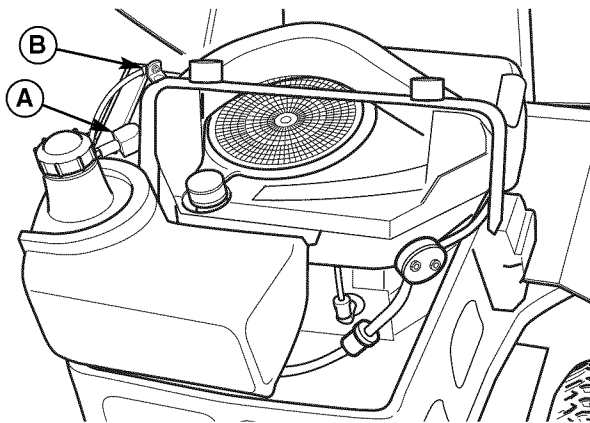

Figure 26. Engine Compartment
1. Disconnect the cables from the battery, negative cable first (B, Figure 26).
6. Reattach the battery cables: first attach the positive cable (see A, Figure 26), then attach the negative cable (B).